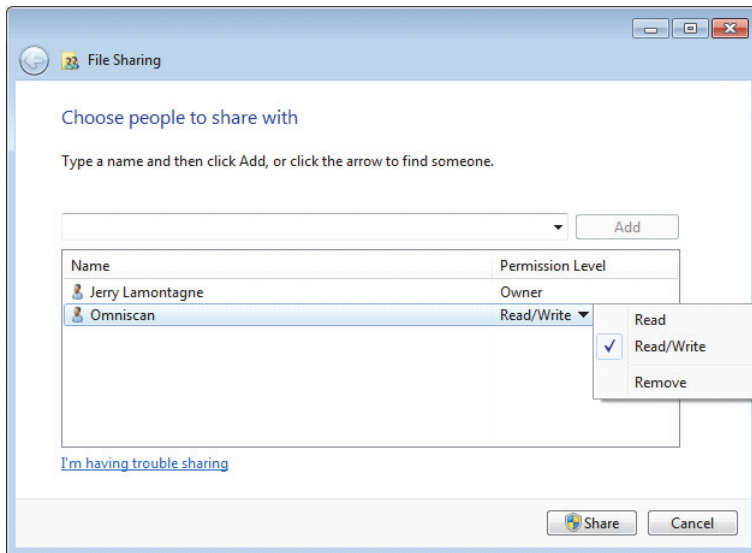

Figure 7-29 Setting Permissions in the File Sharing dialog box (Windows 7)
6. Under **Permission Level**, select **Read/Write** for **Omniscan** (see Figure 7-29 on page 219).